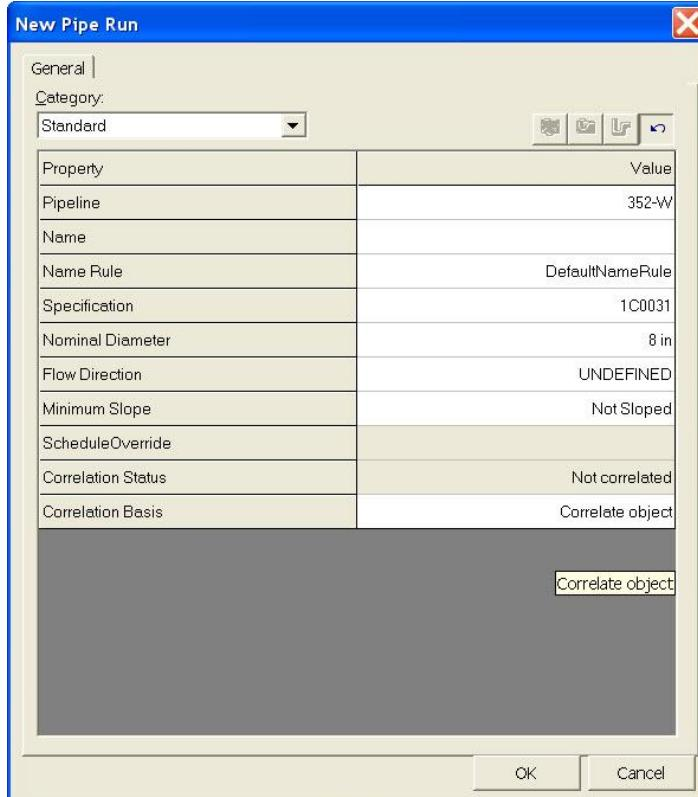

Figure 11. 12: New Pipe Run Dialog
- Select the Plan Plane icon to lock the path the arc piping will take. Left click in the graphical display at any point to accept the arc path similar to Figure 11. 13. The length of the route will be established next.